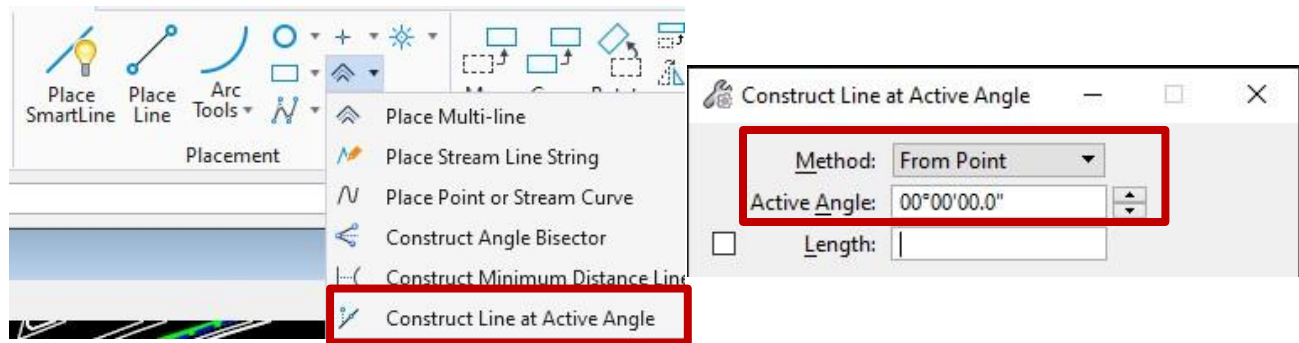

Figure 40 – Construct Line at Active Angle
2. Find the center of the entry at the yield line by offsetting the radius at the entry and using the 'construct line at active angle' tool (**Figure 40**) with an angle of 0.0° and the Method From Point. If the entry is two lanes, find the center of each lane individually.